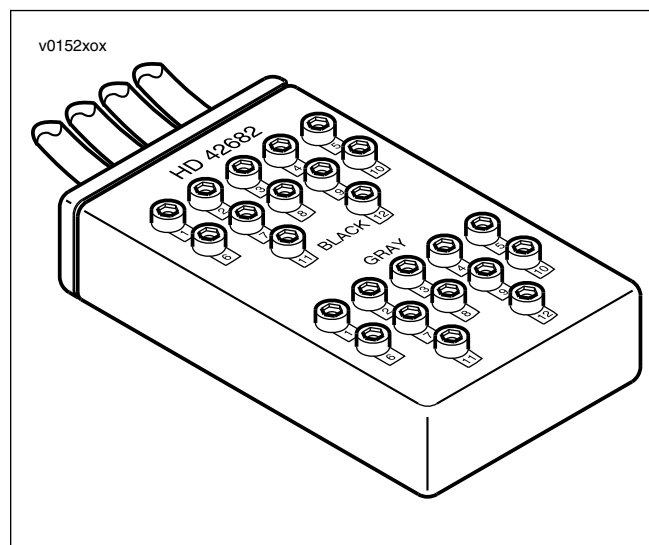

Figure 8-51. Breakout Box: TSSM
3. See Figure 8-51. Attach Breakout Box to connector.